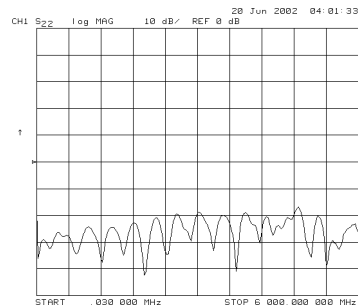

Figure 1-24. Reverse Reflection Mode
- 13** Press MEAS, Refl: E S22 REV to check the reverse reflection mode for channel 1. The measurement trace should be similar to Figure 1-24.